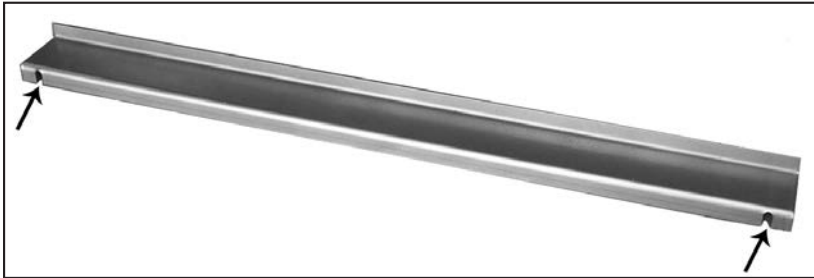

Figure 61: Brick panel bracket, slots shown.
1. Remove the two (2) screws from the rear of the baffle, use a ¼" socket or a flat head screwdriver. Place the provided brick bracket (Figure 61) at the rear of the baffle with the slots over the screw holes (see Figure 62). Insert two (2) of the provided screws into the two (2) holes along the bottom of the baffle.